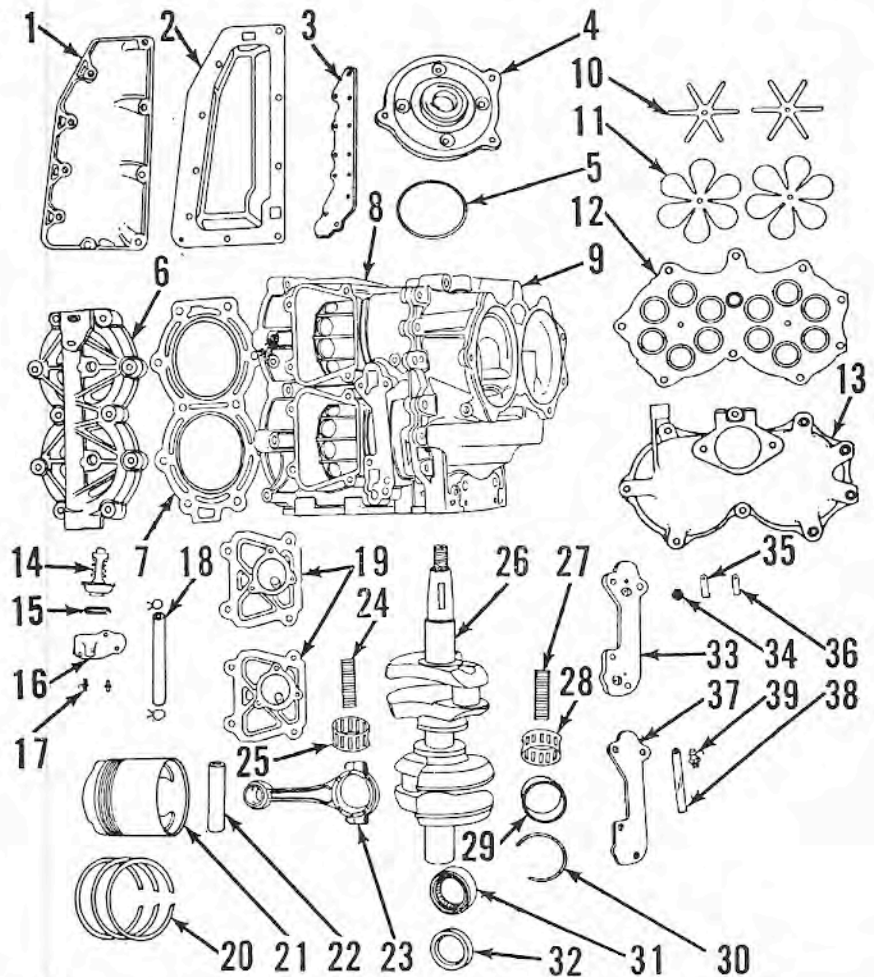

Fig. WB58—Exploded view of power head and associated parts. Shown is 40 horsepower model. Others are similar.
THERMOSTAT. On all 40 and 45 horsepower motors, a powerhead mounted thermostat is used to control the coolant temperature. To remove or service the thermostat, remove the cover (16—Fig. WB58) and withdraw the thermostat (14).
Remove the screws which secure the power head to lower unit. **NOTE:** The exhaust cover on rear of motor leg must be removed for access to the rear securing screw. Lift off the power head assembly. Refer to Fig. WB58 for an exploded view of power head.
The crankshaft upper main bearing is a part of bearing cap (4—Fig. WB58). The center main bearing on 1956 model 25 horsepower motors consists of 26 loose needle rollers which are contained in a split outer race. On all other motors the sixteen loose needle rollers are contained in a split cage and housed in a two-piece outer race secured by a retaining ring. In some motors, the bearing cage and rollers are interchangeable with the connecting rod bearings. The center main bearing race on all motors is separated by fracturing. When assembling the bearing, work the two halves of outer race back and forth a slight amount until the fracture lines are in mesh, then install the retaining ring. The lower main bearing is of the caged roller type.